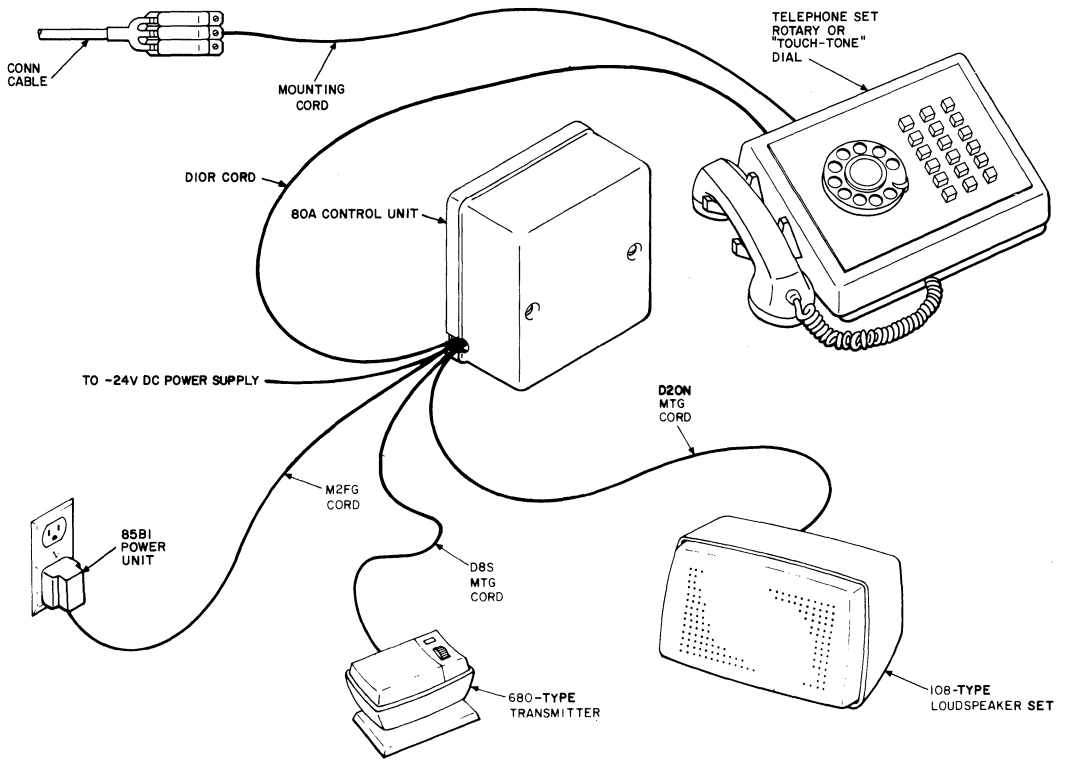

Fig. 1—Speakerphone Arrangement, CALL DIRECTOR (2-Wire or 4-Wire) Telephone Sets
**2.05** Power can be supplied by connecting 85B1 power unit as shown in Fig. 1, 2, and 3.
**1.03** To provide 4A speakerphone feature at these telephone sets, refer to (Fig. 1) for layout arrangement of the components required for the system and (Fig. 2, 3, or 4) for individual lead connections.